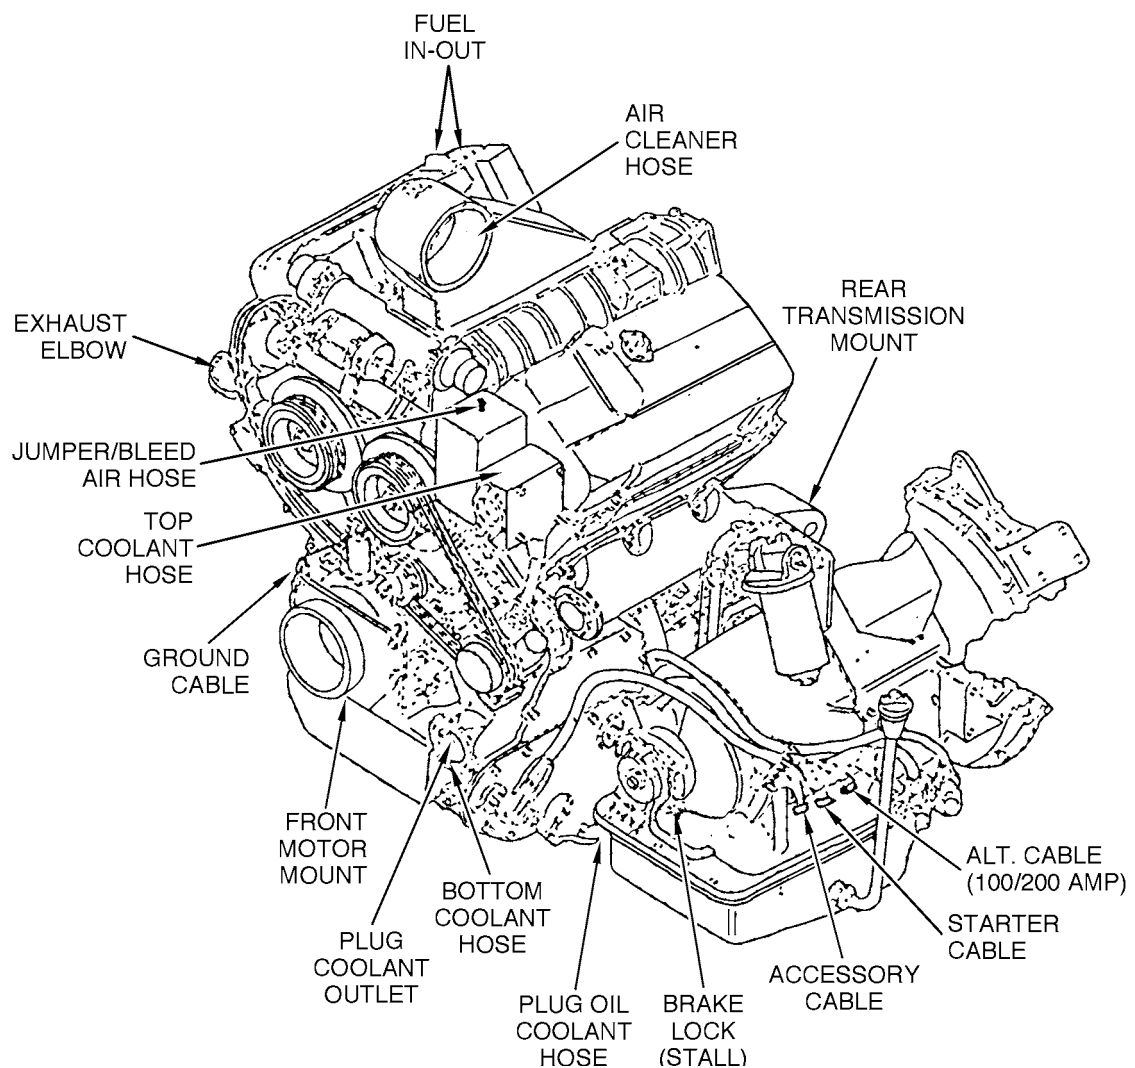

Figure 4-8. Hook-up List (M113A2/M548A1)
See Figure 4-8 for partial guide and check list of items to be connected.
33. Move fuel pump switch to **OFF** position and pull lever to stop position (see Figure 4-8).